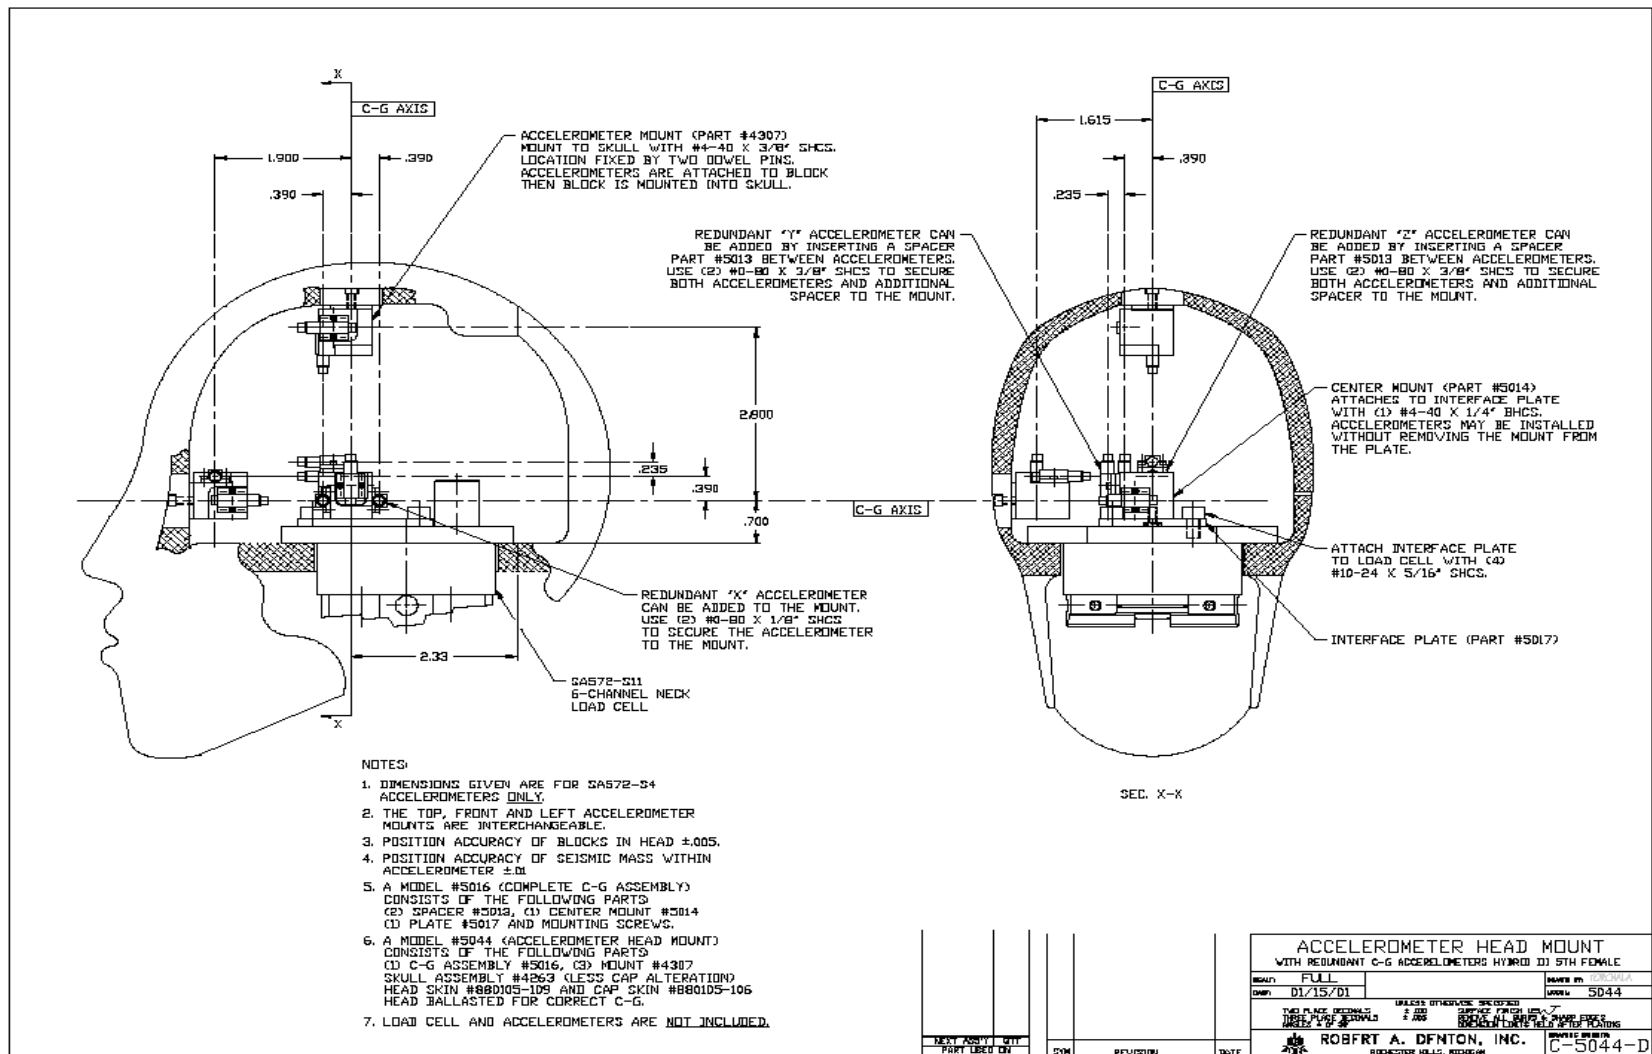
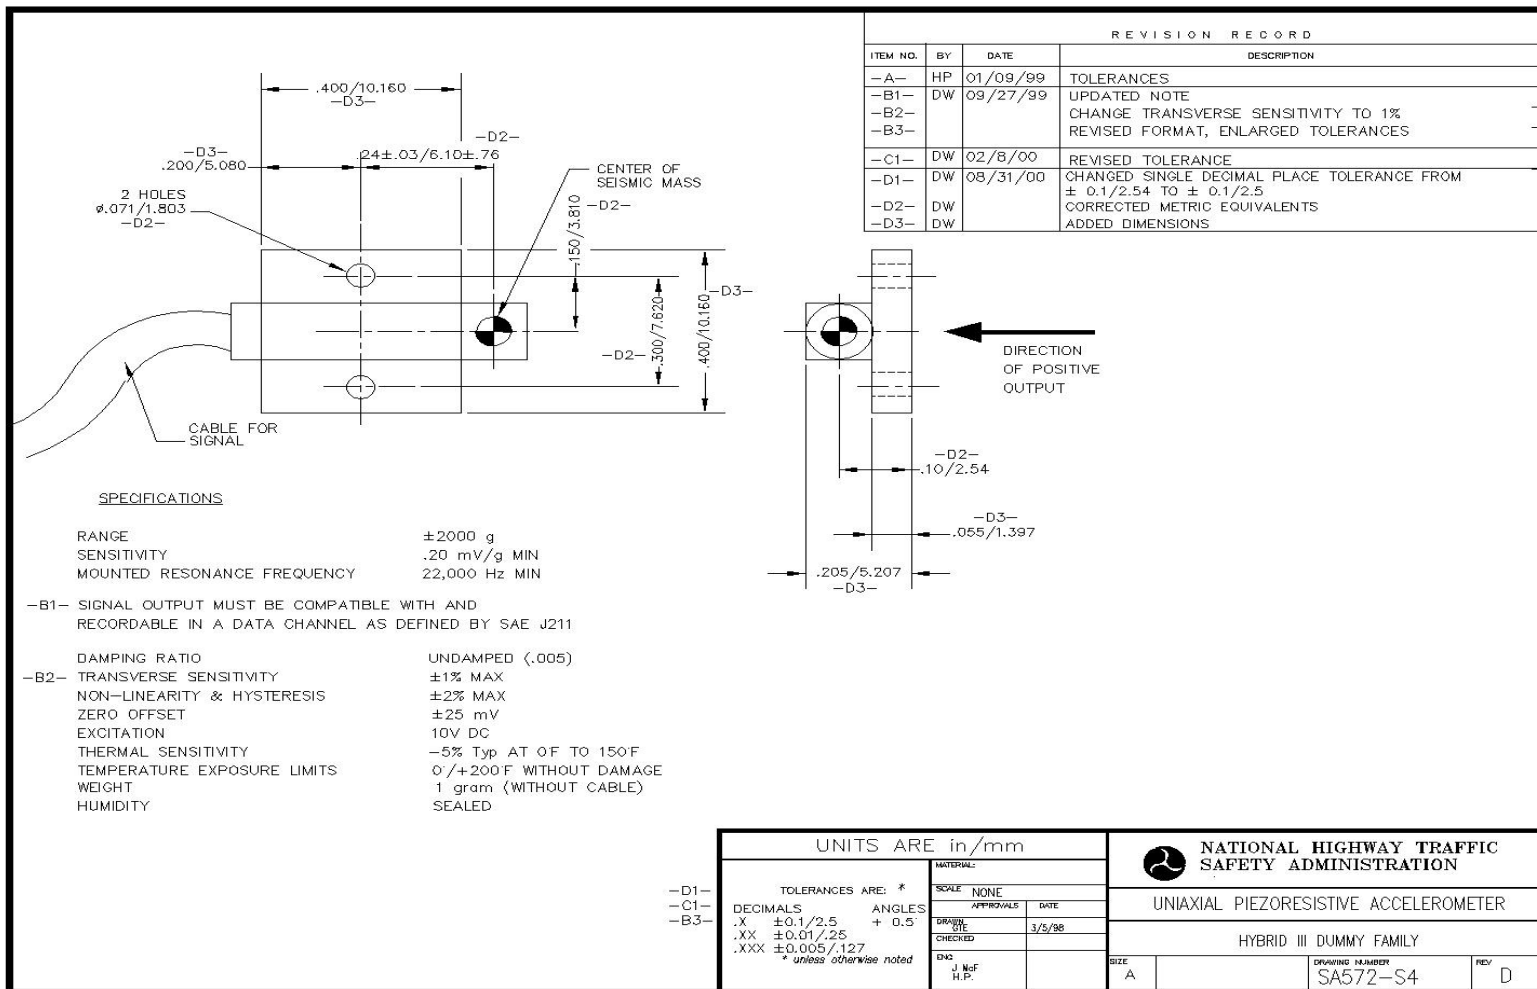
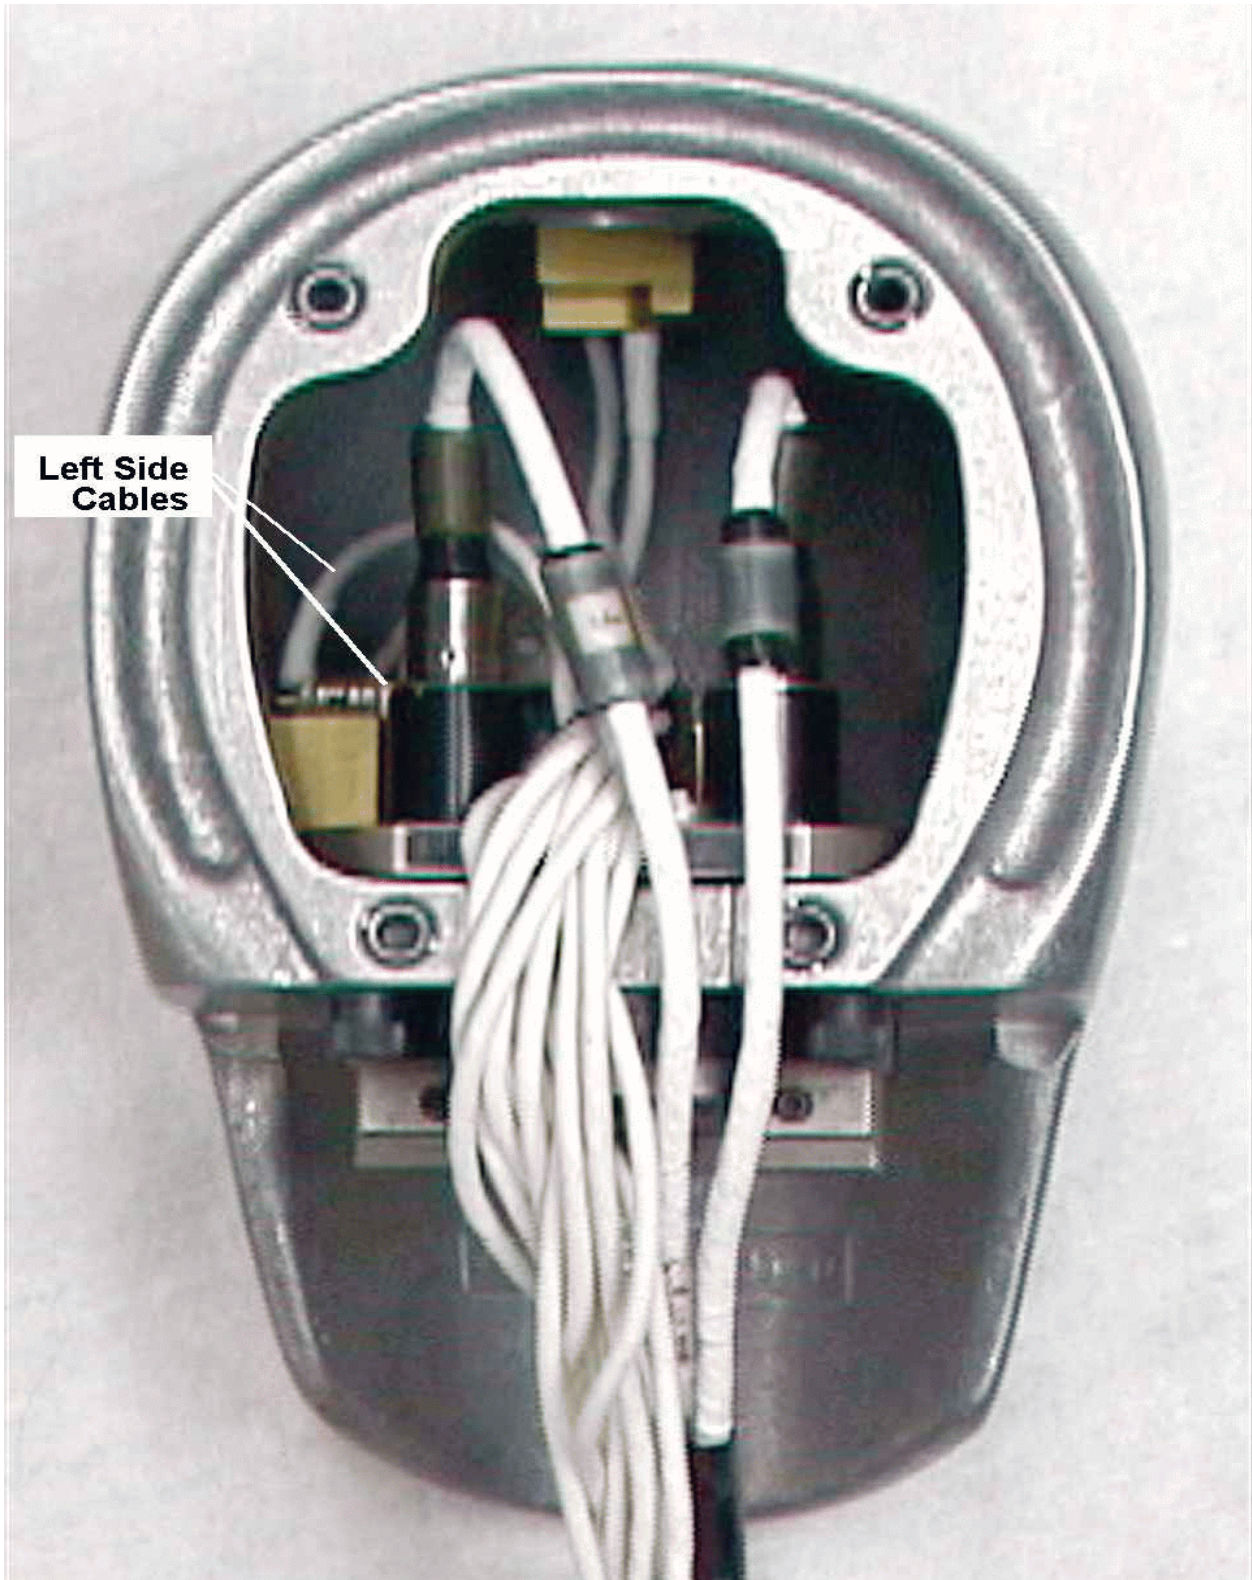

Figure 1.1 – Nine Accelerometer Array Head With Redundant C.G. Accelerometers
Figure 1.2 -- SA572-S4 Uniaxial Piezoresistive Accelerometer
Figure 3.10 -- Nine accelerometers plus three c.g. redundant accelerometers and a load cell installed in skull
The National Highway Traffic Safety Administration has prepared this document under the title “Procedures for Assembly, Disassembly, and Inspection of the Hybrid-III 5th Percentile Female Nine Accelerometer Array Head with Redundant Head C.G. Accelerometers,” otherwise known as “PADI for the H-III 5th Female NAAH With Redundant C.G. Accelerometers.” The document is based on drawings from Robert A. Denton, Incorporated. The NAAH With Redundant C.G. Accelerometers is depicted in Figure 1.1. Its size, weight distribution, and moment of inertia are that of an average 5th Percentile Female. This special head is used for assessing head injuries in motor vehicle crashes.
All parts in this procedure refer to Figures 1.1, 1.2, and to the drawing packages specified in the Part 572 Subpart O and E. The part number for the nine accelerometer array head mount with redundant accelerometers is Denton Drawing No. C-5044-D dated 1/15/01. The accelerometers are Part Number SA572-S4 as specified in Figure 1.2. The weight and c.g. specifications are identical to those specified for the Hybrid III 5th Percentile Female Dummy head on NHTSA drawings 880105-100X and 880105-000 Sheet 6 of 6. Copies of drawings for the Subpart O or E dummies can be obtained from Reprographics Technologies, 9000 Virginia Manor Road, Beltsville, MD 20705; Telephone (301) 210-5600.
The parts specific to the assembled NAAH are included on the drawing in Figures 1.1 and 1.2. Some references are made to parts from the Hybrid III 50th percentile Part 572, Subpart E Dummy Drawings. These drawings are not included.
The nine accelerometer array with redundant c.g. accelerometers head construction consists of a modified Hybrid III 5th percentile female skull (Figure 1.1) containing three mounting pads permanently inserted into the skull and the following parts which can be disassembled from the skull:
- a. Three outboard triaxial mounts (Part No. 4307, Figure 1.1) for uniaxial accelerometers (only two of the three axes per mount are used) accommodating six accelerometers.
- b. A c.g. assembly (Model No. 5016) consisting of center mount (Part No. 5014, Figure 1.1), two spacers (Part No. 5013, Figure 1.1), and an interface plate (Part No. 5017, Figure 1.1) and mounting screws. This assembly accommodates six uniaxial accelerometers.
- a. Removing from the head the upper neck load cell structural replacement (Drawing 78051-383X), outboard mounts (Part No. 4307, Figure 1.1) and c.g. assembly (Model No. 5016, Figure 1.1)
1. Remove the skull cap/skull cap skin assembly (Drawings 880105-103/ 880105-106) by taking out the four #10-24 x 1/2" SHCSs that hold the skull cap to the skull to expose the accelerometer head mount with redundant c.g. accelerometers as shown in Figure 1.1.
3. Remove the left outboard accelerometer mount (Part No. 4307, Figure 1.1) from the dummy head by removing the #4-40 x 3/8" SHCS from the left outer side of the skull (Figure 1.1).
- a. Attach two accelerometers (Part No. SA572-S4, Figure 1.2) in the X and Z directions to the left outboard mount using #0-80 UNF x 1/8" SHCS in accordance with Figure 1.1. Orient the accelerometers per Figure 1.1 and Table 2.1. Label the accelerometer wires "X and Z left."
- a. If using an SA572-S11 upper neck load cell remove the c.g. assembly (Model No.5016, Figure 1.1) from the load cell structural replacement (Drawing 78051- 383X) by removing the four #10-24 x 5/16" SHCSs attached to the interface plate (Part No. 5017, Figure 1.1).
5. Remove the front outboard mount (Part No. 4307, Figure 1.1) by removing the #4-40 x 3/8" SHCS from the front outer surface of the head.
- a. Attach two accelerometers (Part No. SA572-S4, Figure 1.2) in the Y and Z directions to the front outboard mount using #0-80 UNF x 1/8" SHCSs in accordance with Figure 1.1. Orient the accelerometers per Figure 1.1 and Table 2.1. Label the accelerometer wires "Y and Z front."
6. Remove the top outboard mount (Part No. 4307, Figure 1.1) by removing the #4-40 x 3/8" SHCS from the top outer surface of the head.
- a. Attach two accelerometers (Part No. SA572-S4, Figure 1.2) in the X and Y directions to the top outboard mount using #0-80 UNF x 1/8" SHCSs in accordance with Figure 1.1. Orient the accelerometers per Figure 1.1 and Table 2.1. Label the accelerometer wires "X and Y top."
7. Install the front and top outboard mounts (Part No. 4307, Figure 1.1) with accelerometers to their corresponding permanently fastened pads in the front and top of the skull. Note that the mounts can be installed on the pad dowel pins in only one way for the # 4-40 screw to properly align the mount to the pad. Also, note that these outboard mounts are made of aluminum and are subject to internal thread stripping.
- b. Make sure the accelerometers are properly oriented as per Figures 1.1, 3.2, 3.3, and Table 2.1.
8. Install the six accelerometers (Part No. SA572-S4, Figure 1.2) in the X, Y, and Z directions on the c.g. assembly (Model No. 5016, note 5 on Figure 1.1) on the upper neck load cell (SA572-S11) or load cell structural replacement (Drawing 78051- 383X) after assembling the mounts as described below.
- a. If not already in place, attach the center mount (Part No. 5014, Figure 1.1) to the interface plate (Part No. 5017, Figure 1.1) by accessing the #4-40 x 1/4" BHCS on the bottom of the interface plate (Figure 3.5). Note that the center mount can be installed on the interface plate in only one way for the # 4-40 screw to properly align the mount to the interface plate. Also, note that the center mount is made of aluminum and is subject to internal thread stripping.
- b. Attach the interface plate (Part No. 5017, Figure 1.1) and center mount (Part No. 5014, Figure 1.1) to the upper neck load cell SA572-S11 or structural replacement (Drawing 78051- 383X) with four #10-24 x 5/16" SHCSs. Two locator pins assure proper alignment of the interface plate on the load cell or load cell structural replacement. The through holes in the interface plate are shown in Figure 3.5. The center mount and locator pins are shown in Figure 3.6. A perspective view of the assembly is shown in Figure 3.7.
- c. Attach two accelerometers (Part No. SA572-S4, Figure 1.2) in the X direction to the center mount (Part No. 5014, Figure 1.1) using #0-80 UNF x 1/8" SHCSs. Attach four accelerometers (Part No. SA572-S4, Figure 1.2), two each in the Y and Z directions using the redundant accelerometer mounts (spacers) (Part No. 5013, Figure 1.1) and four #0-80 UNF x 3/8" SHCSs. Orient the accelerometers per Figures 1.1 and 3.8, and Table 2.1. Label the accelerometer wires "Head X Center, Head Y Center, Head Z Center, Head X Redundant, Head Y Redundant, Head Z Redundant."
9. Install the SA572-11 upper neck load cell or load cell structural replacement (Drawing 78051-383X) with its c.g. and redundant mounted accelerometers (Part No. SA572-S4, Figure 1.2) in the dummy head by completing the following task.
10. Install the left outboard mount (Part No. 4307, Figure 1.1) with accelerometers by attaching a #4-40 x 3/8" SHCS from the left outer surface of the head. Note that the mount can be installed on the pad dowel pins in only one way for the # 4-40 screw to properly align the mount to the pad. Also, note that the outboard mount is made of aluminum and is subject to internal thread stripping. Attach the load cell cables to the load cell if they are not already connected. The installation is pictured in Figure 3.10. The orientation of the accelerometers should agree with Figure 1.1 and Table 2.1.